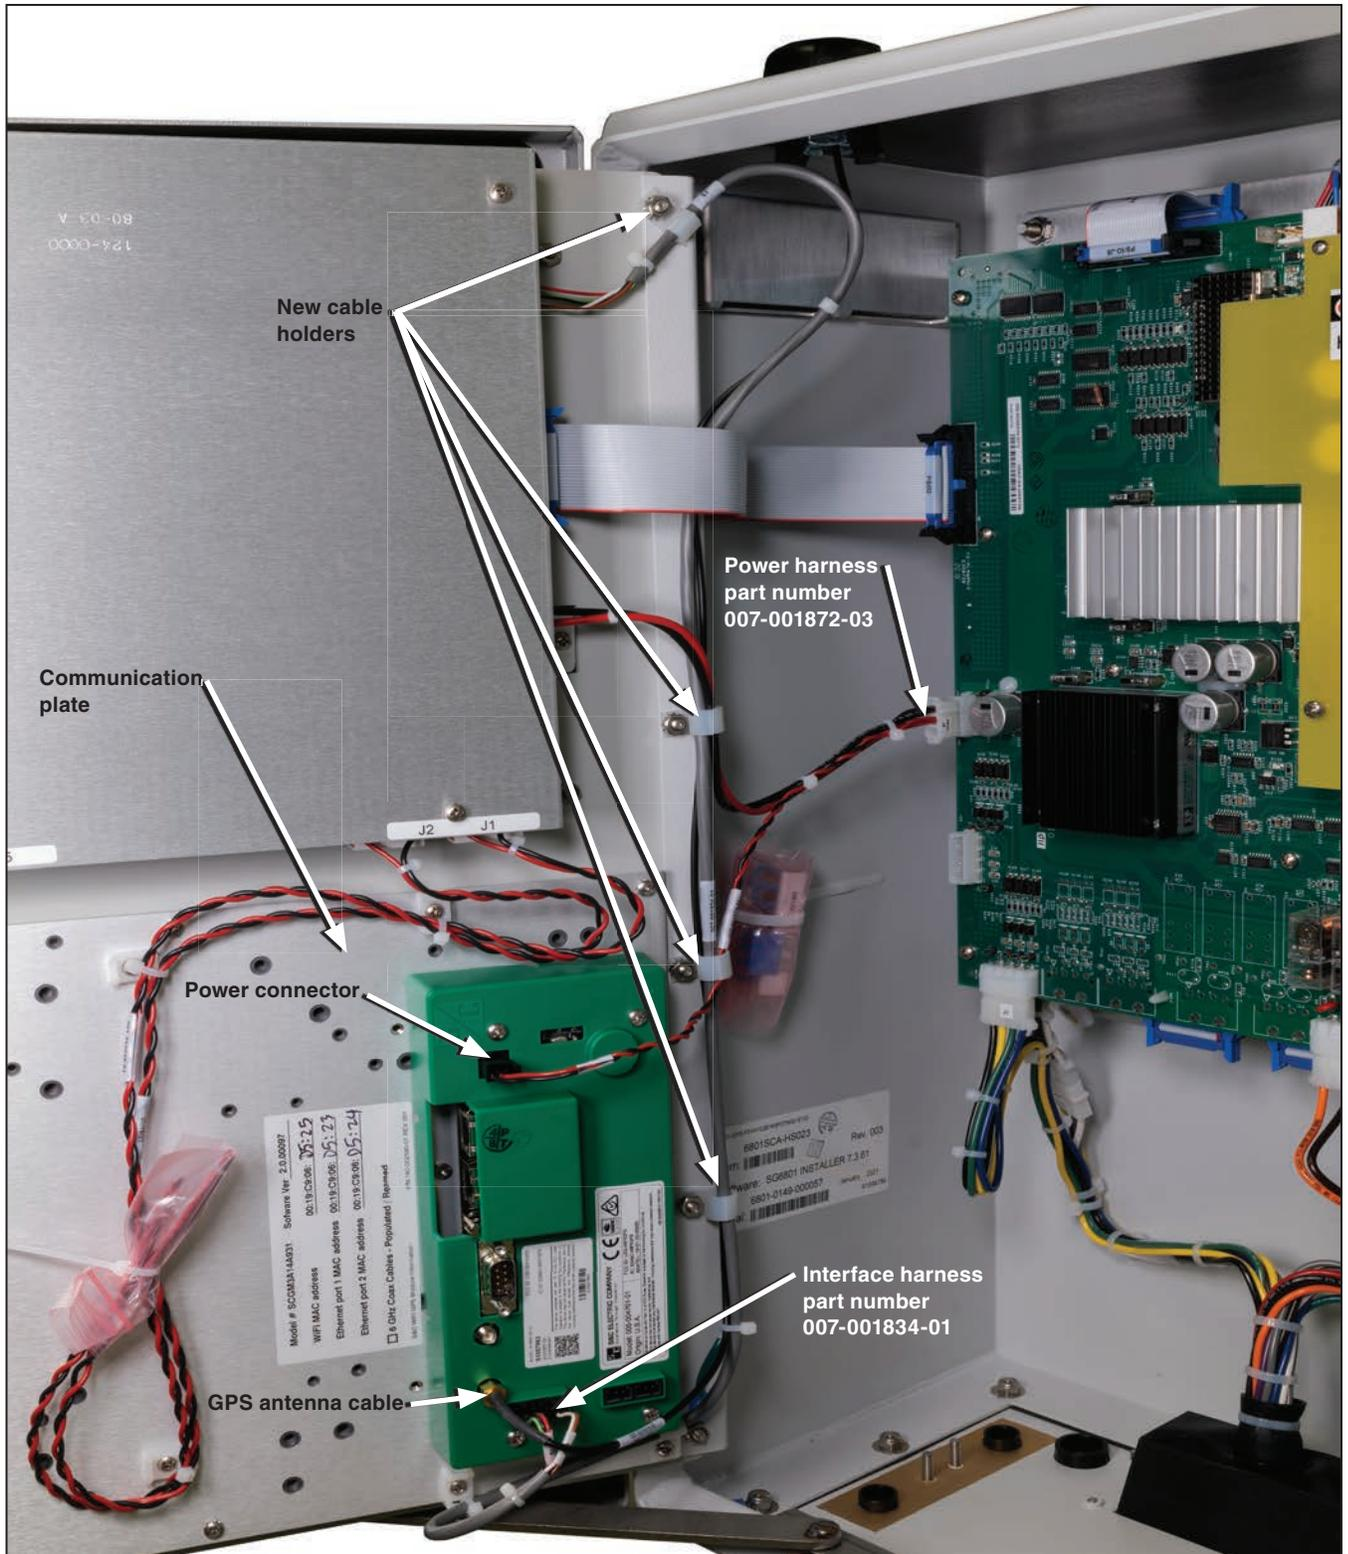

Figure 16. The GPS antenna cable secured by cable clamps and attached to the antenna connector on the Wi-Fi/GPS board.
- STEP 14.** Remove the four nuts and lockwashers to attach the cable holders, secure the GPS antenna cable and the GPS interface cable with the cable holders, and reinstall the lockwashers and nuts. See Figure 16 on page 17.
- STEP 17.** Install the new communication plate that has the Wi-Fi/GPS board below the processor board on the back of the front panel. See Figure 16 on page 17.
- STEP 19.** Connect the interface harness to the left connector at the bottom of the Wi-Fi/GPS board. See Figure 16 on page 17.
- STEP 20.** Connect the GPS antenna cable to the lower antenna connector on the Wi-Fi/GPS board. See Figure 16 on page 17.